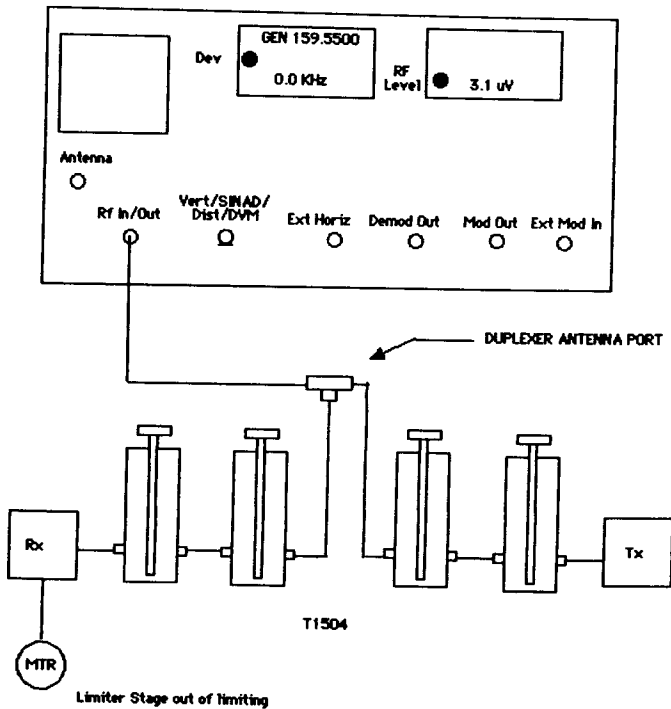

FIGURE 5.11 – DUPLEXER PASSBAND ADJUSTMENT SETUP
- Connect the service monitor's "RF In/Out" to the in-service duplexer antenna port as shown in figure 5.11.